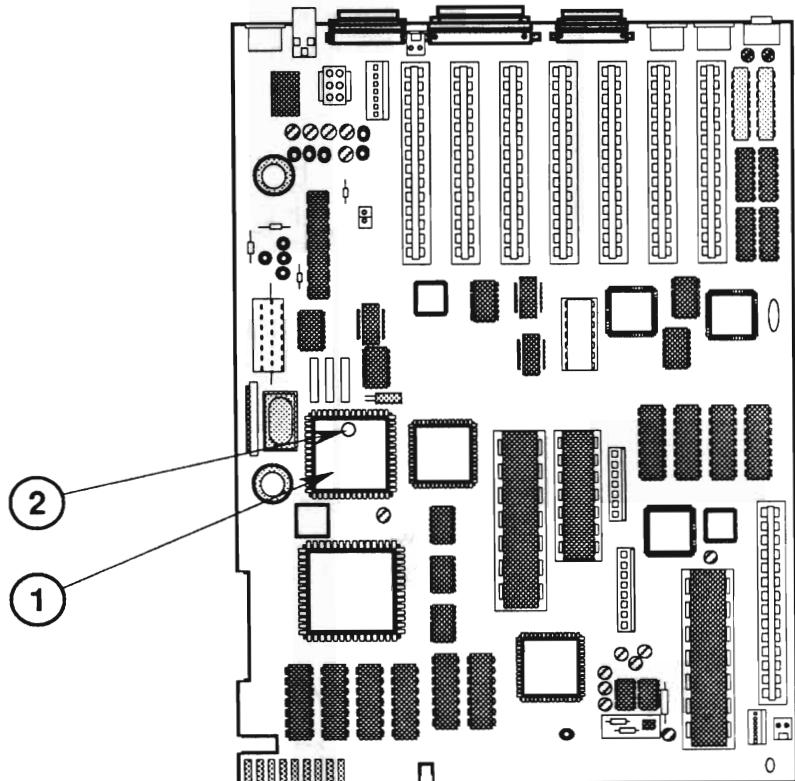

FIGURE 6
4. Locate the VGC at location H5 (Figure 6, #1) and verify that it needs to be replaced by comparing the vendor and number on the IC with the list above.
6. Remove the old VGC installed at location H5 (Figure 6, #1) using the VGC extraction tool.
7. Using the VGC extraction tool, install the new VGC in the same location, H5 (Figure 6, #1). The dot at pin 1 on the IC should face the rear of the machine (Figure 6, #2).
- IPL.13 Upgrade (Figure 6)